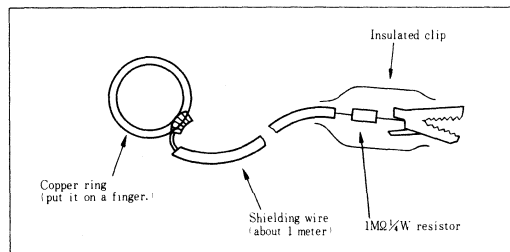

Fig. 1
- (2) Ground operator in handling memories for inspection or connection as shown in Fig. 1. Insert a 1M ohm resistor to protect operator against an electric shock.
- (3) Control the ambient relative humidity at about 50%.
- (4) Wear cotton clothes instead of the ones made of synthetic fabrics.
- (5) Ground tips of soldering iron, which is preferable the one operates at low voltage.
- (6) Pack with conductive mats in shipping IC memories mounted on the circuit board.